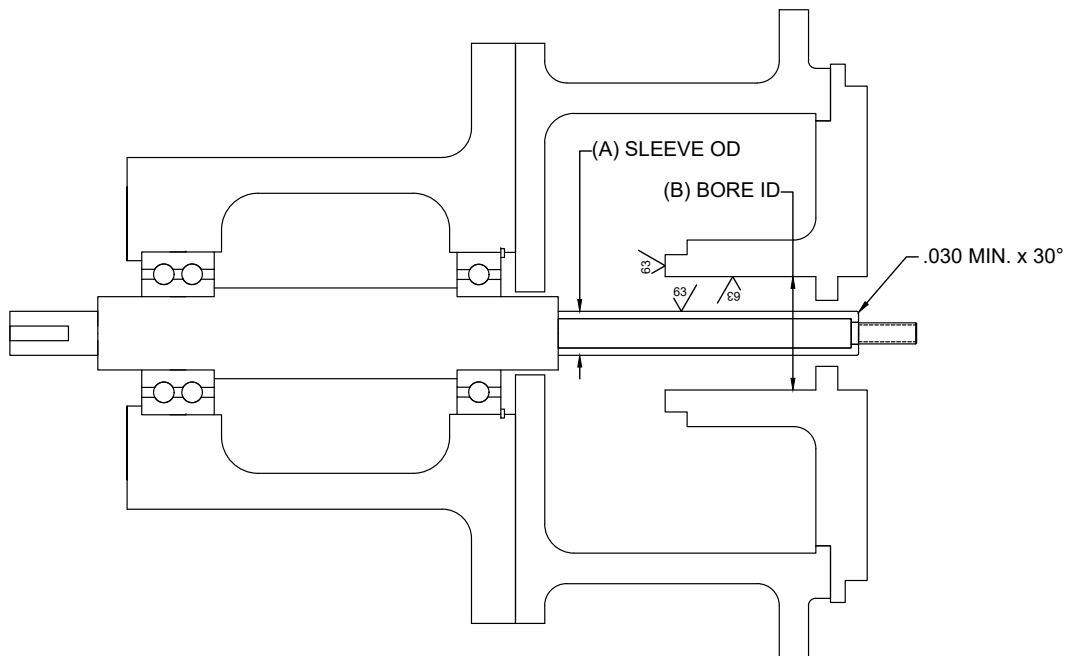

Figure 1: Surface finish and chamfer locations. Fully assembled pump without seal.
5. The maximum surface finish of sealing surfaces and the shaft or sleeve must be 63 Ra- μ m as seen in Figure 1.
6. For ease of installation, the leading edge of the shaft or sleeve should be chamfered as shown in Figure 1 and all parts should be deburred.